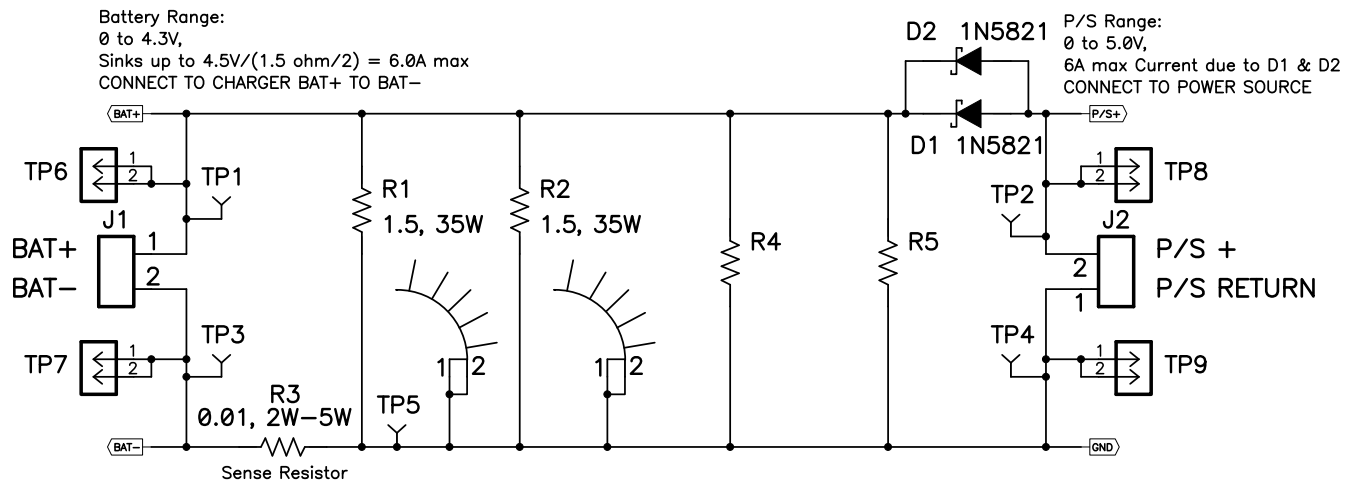

Figure 2. BAT\_Load (PR1010) Schematic
If not using a battery as the load, then power supply #2 (PS#2) is can be used. 4 A is required to power the circuit shown in Figure 2.
Testing with an actual battery as the load is the best way to verify operation in the system. If a battery is not available, then a circuit similar to the one shown in Figure 2 can simulate a battery when connected to a power supply.
3. If BAT\_Load is the circuit shown in Figure 2, connect Power Supply #2 (PS#2) set to approximately 3.1 V to the input side of BAT\_Load, and then turn off PS#2.